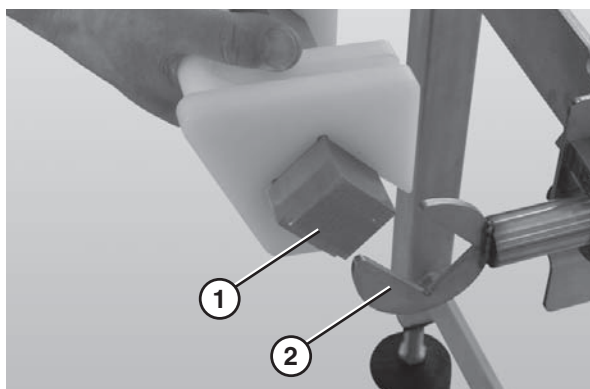

Figure 23
- Attach the nose bar transfer post (Figure 23, item 1) to the nose bar idler shaft hands (Figure 23, item 2).